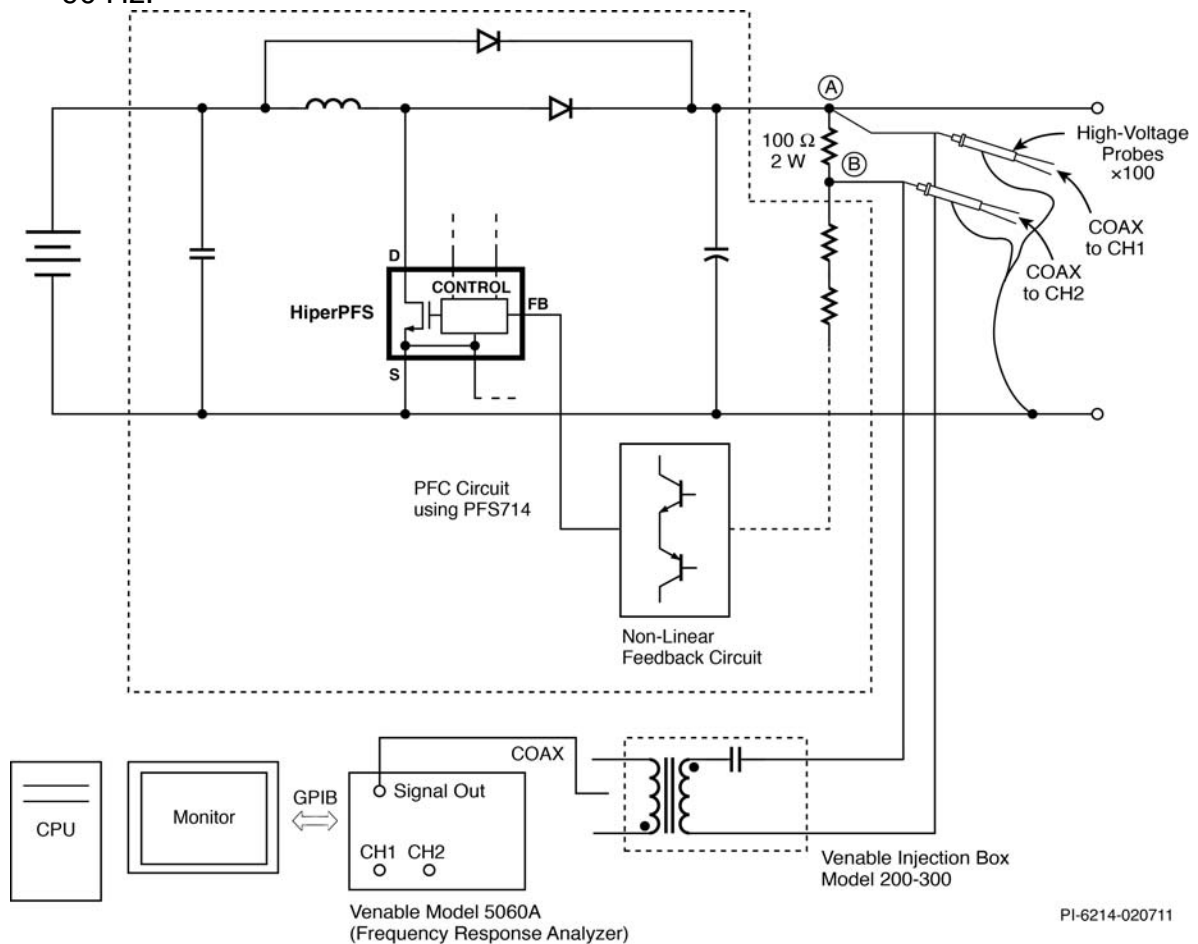

Figure 76 – System Test Set-up for Loop Gain-Phase Measurement.
- The PFC stage is supplied from an adjustable DC source for this test. Connect the circuit as shown in Figure 76. Open the top end of the feedback divider network and insert a $100\ \Omega$, 2 W resistor in series as shown. The signal injected in the loop for gain phase measurement will be injected across this resistor.